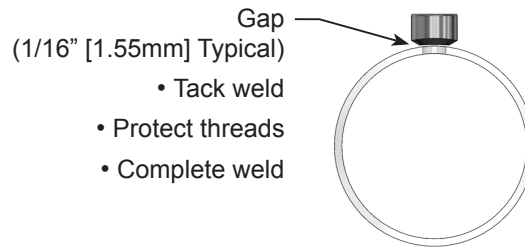

Figure 3. Weld Gap
- Using the appropriate weld gap (1/16" [1.5mm] typical), tack weld the thread-o-let into position, then remove the sensor and Spring-Lock body. Protect threads on the thread-o-let and finish welding the thread-o-let to the pipe per applicable codes (see Figure 3).